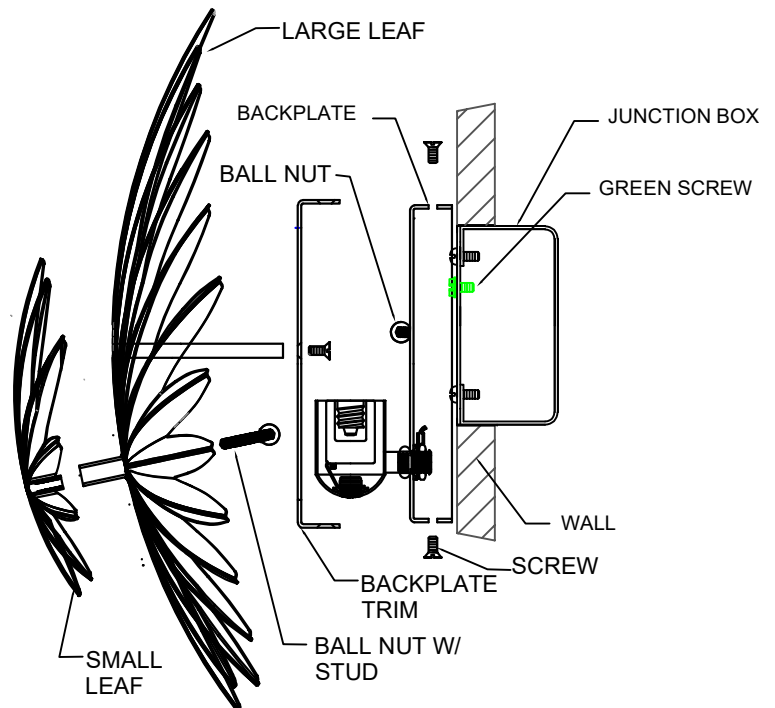

FIGURE-02
5. Attach the large and small leaf to the backplate trim and secure it with screw. (See Figure-02)
6. Attach backplate trim to the backplate and secure it with screw. (See Figure-02)
7. Attach backplate trim to the backplate and secure it with ball nuts. (See Figure-02)